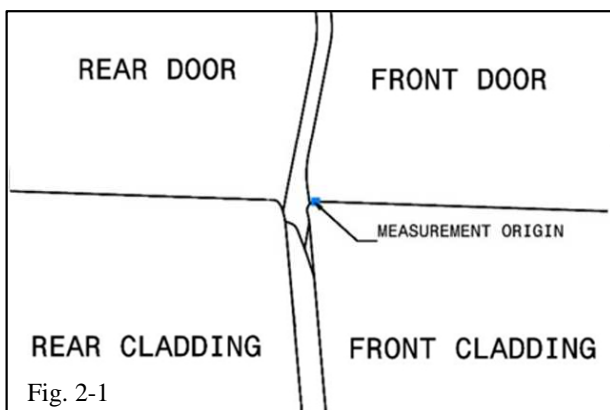

Fig. 2-1
- (a) Locate the horizontal measurement location on the front cladding (Fig 2-1).